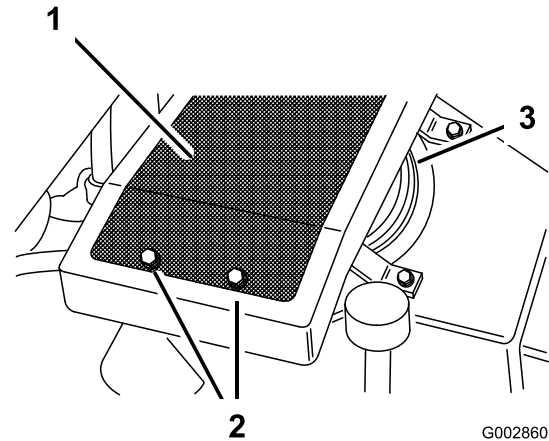

Figure 35
1. Remove oil cooler from the engine (Figure 35). Save all mounting hardware.
2. Blow out fins of oil cooler and area between fins and screen with compressed air. If area between screen and fins is tightly packed, remove oil cooler from screen. Removing two retaining screws. Save all mounting hardware (Figure 35).
4. Install oil cooler onto engine with the previously removed hardware (Figure 35).